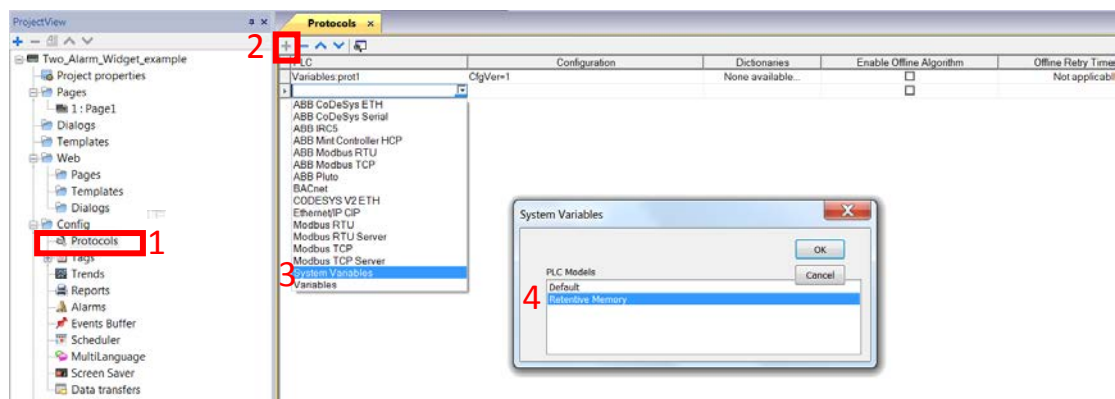

Figure 1 – Creating a System Variable protocol
- 4.1. Up to 32 recipes can be used in a single project and each recipe can contain as many as 32000 elements. So for a relatively few numbers of variables, each can be saved to its own recipe. Multiple variables may be saved to a single recipe as well. In other words, each variable or tag used in the recipe is attached to one element. Each recipe contains one or more elements. To create a recipe, right click on the Recipes folder in the Project View tree and select Add Recipe (figure 1, step 1). Repeat this process to create more than one recipe. Recipes can be renamed if desired. 5
- 4.2. Double click on a recipe to open its tab in the workspace. Next, click the + button at the upper-left for each tag you want to include in the recipe (figure 1, step 2). 5
- 4.3. Set Number of Sets to 1 in the properties pane on the right (figure 1, Step 3). 5
- 4.4. Attach a tag to each row in the recipe column (figure 1, step 4) 5
- 3.1. As shown in figure 1, below. Double click the Protocol icon in the Config folder to open the Protocol editor.
- 3.2. Click the + icon at the upper-left to create a new protocol, then select System Variables from the drop-down menu in the first column of the newly created protocol (Figure 1, steps 2 and 3).
- 3.3. When the System Variables dialog opens select Retained Memory and click OK (Figure1, step 4).
- 4.1. Up to 32 recipes can be used in a single project and each recipe can contain as many as 32000 elements. So for a relatively few numbers of variables, each can be saved to its own recipe. Multiple variables may be saved to a single recipe as well. In other words, each variable or tag used in the recipe is attached to one element. Each recipe contains one or more elements. To create a recipe, right click on the Recipes folder in the Project View tree and select Add Recipe (figure 1, step 1). Repeat this process to create more than one recipe. Recipes can be renamed if desired.
- 4.2. Double click on a recipe to open its tab in the workspace. Next, click the + button at the upper-left for each tag you want to include in the recipe (figure 1, step 2).
- 4.3. Set Number of Sets to 1 in the properties pane on the right (figure 1, Step 3).
- 4.4. Attach a tag to each row in the recipe column (figure 1, step 4)